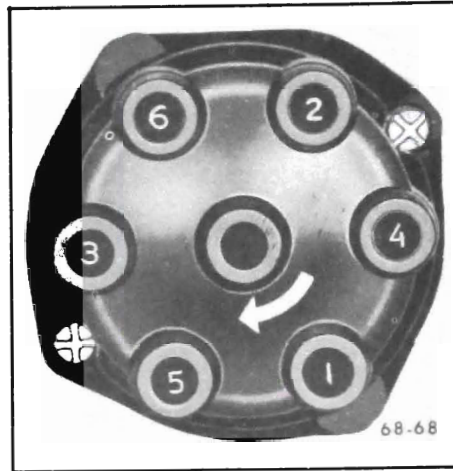

Figure 68-40 · Installing Spark Plug Wires in Cap - L-6 Engine
5. Install distributor cap. Make sure that spark plug wires are correctly installed in distributor cap, through clips on rocker arm covers, and on spark plugs. See Figure 68-40 and 41.
No. 1 spark plug wire is installed in the first distributor cap tower after the adjusting window, moving in the direction of rotation (V-8), or in the foremost tower (L-6). The other wires are then installed in a clockwise direction according to the firing order. See Figure 68-40 or 41.
16. If spark wires were removed make certain that they are replaced as shown in Figure 68-40 or 41. Wires must be pushed all the way down into the distributor cap terminals and onto the spark plugs. Nipples must be pushed firmly over the terminals and boots over the spark plugs.